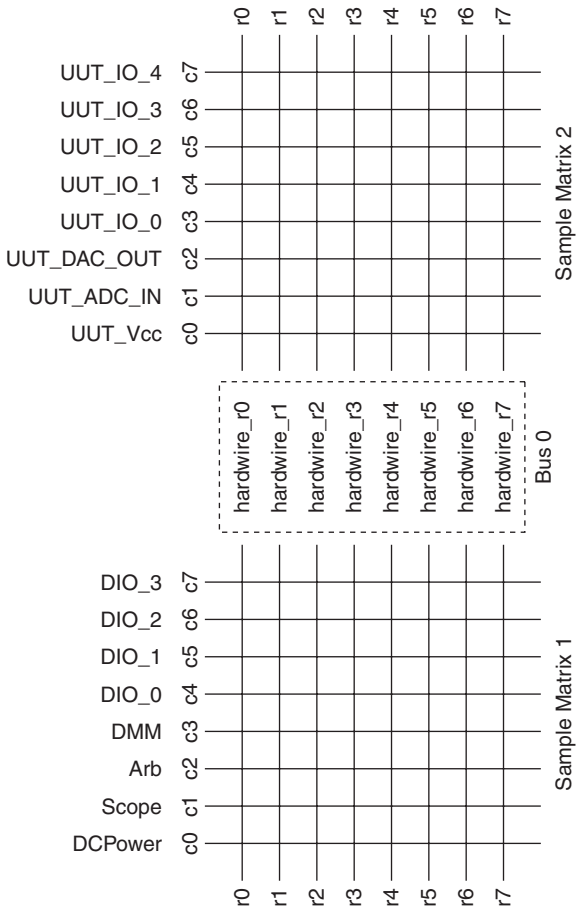

Figure 2. System Architecture for SwitchExecutiveExample
To acquaint you with the fundamentals of using NI Switch Executive, the following exercise recreates a portion of the virtual device that ships with NI Switch Executive and is available in MAX at **Devices and Interfaces»NI Switch Executive Virtual Devices»SwitchExecutiveExample**. As illustrated in Figure 2, `SwitchExecutiveExample` is composed of two 8×8 matrices that operate as one 8×16 matrix.
Refer to Figure 2 and complete the following steps to create the channel aliases and hardwires of the virtual device:
3. In the **Alias Name** textbox, type an alias for the channel as it appears in Figure 2.
11. Repeat steps 6 through 10 to associate a hardware with every row channel of `SampleMatrix1` as listed in Figure 2.
14. Repeat steps 6 through 10 to associate a hardware with every row channel of `SampleMatrix2` as listed in Figure 2.